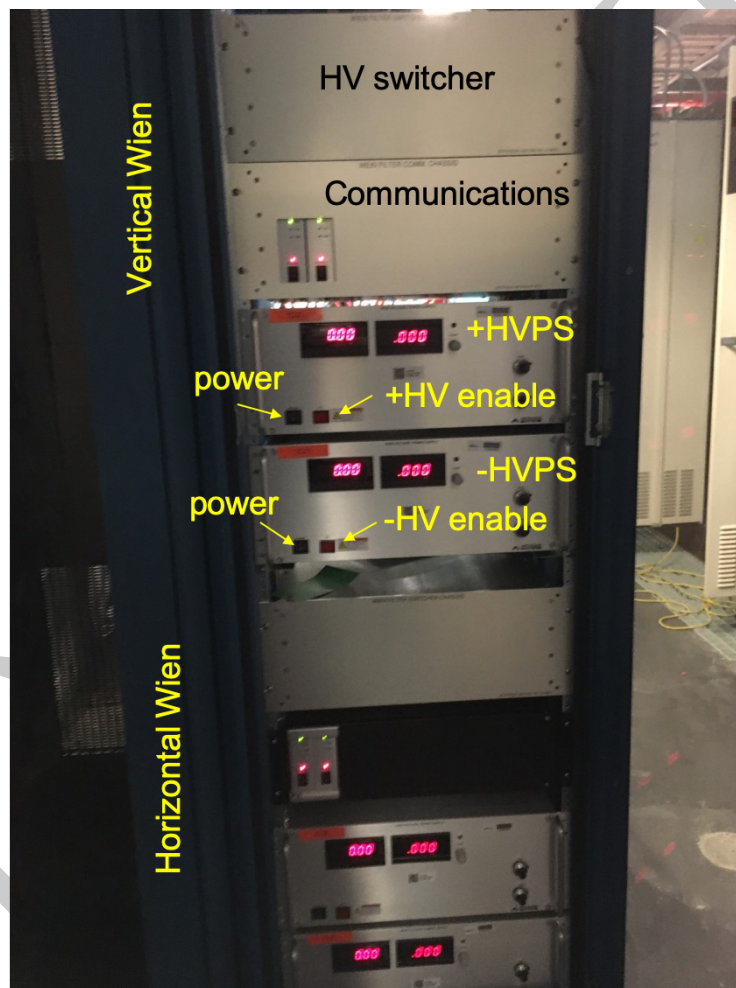
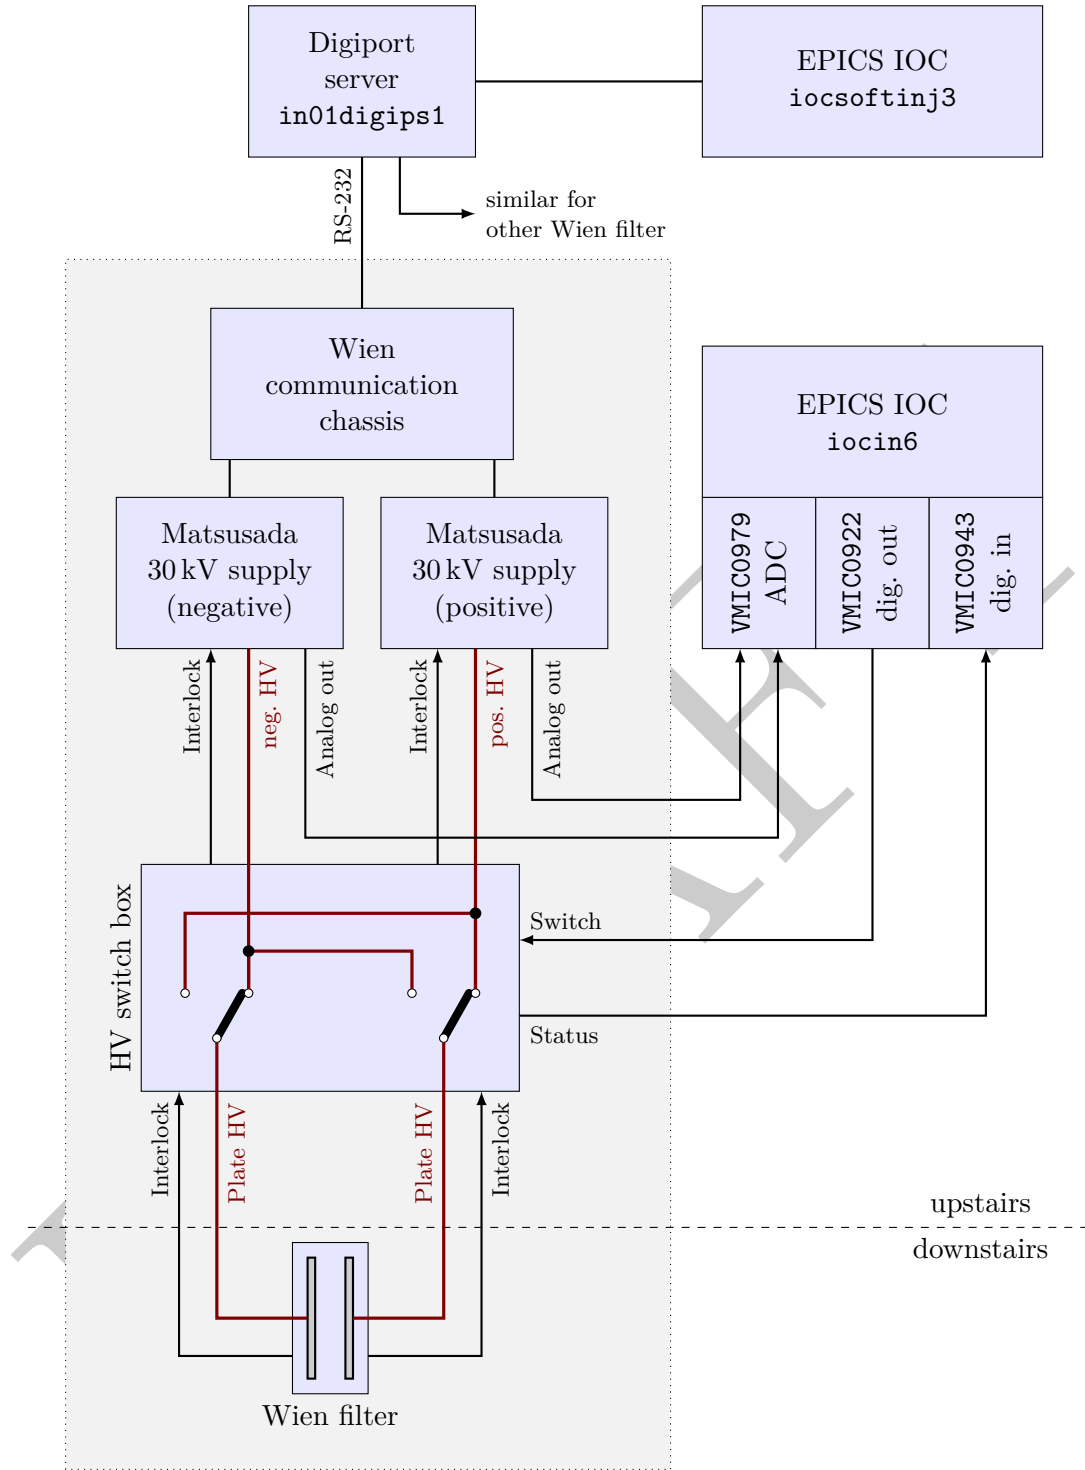

Figure 1: Photo of the rack housing the supplies, switch boxes, and control components.
Figure 2: Schematic layout of the Wien filter control circuitry. The components inside the gray box exist separately for each Wien filter.
Figure 1 shows the corresponding rack in the Injector Service Building. A schematic overview of the high-voltage wiring and controls is shown in Fig. 2.
- Current readback: reports the current read from the power supply in mA. The current limit is set on the front of the power supply in the range 0 mA to 1 mA by dialing the grey knob (see photo in Fig. 1). The knob should be turned all the way clockwise, thus setting the limit to 1 mA. There is no remote-control option to set the current limit. There is no expected current draw during normal Wien operations.
1. Proceed to the Wien Filter HV rack located in the injector service building (shown in Fig. 1).
6. Starting with the Vertical Wien system (top), turn the communication chassis power switches (2) off. The green TLK LEDs will be off now.